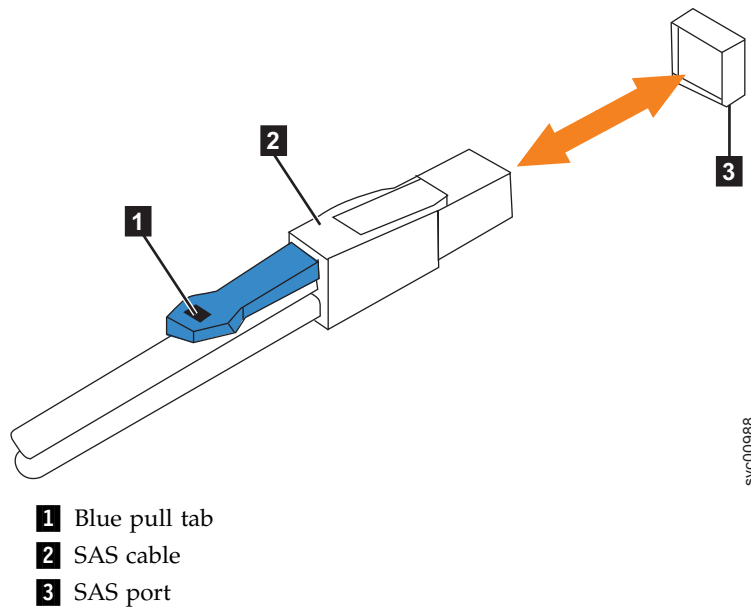

Figure 69. Correct orientation for SAS cable connectors
5. Ensure that the SAS connector is oriented correctly, as shown in Figure 69. The blue tab must face towards the top of the enclosure canister.